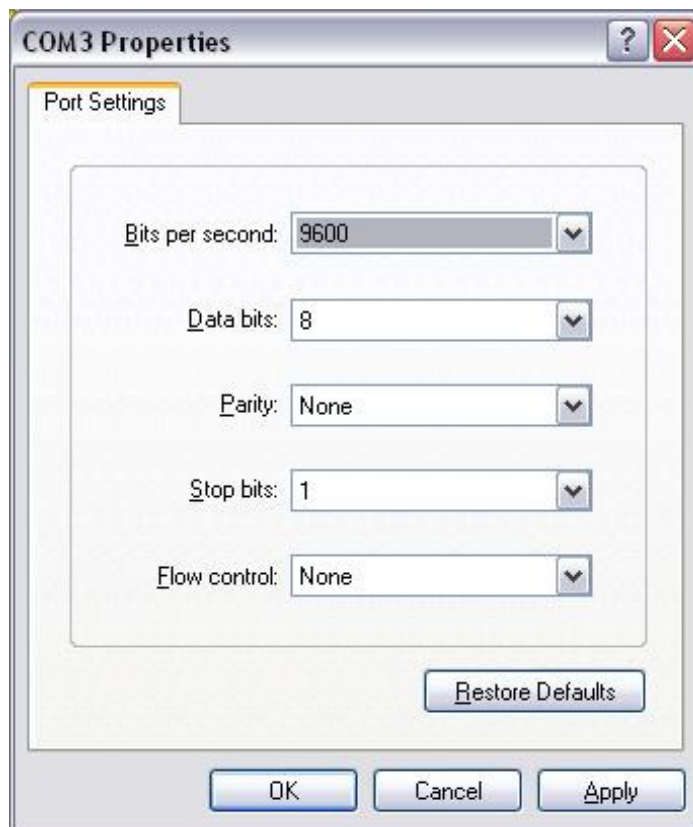

Figure 8: HyperTerminal COM Properties
6. The HyperTerminal will then prompt the user for properties of the selected COM port. Ensure the following port settings (as seen in Figure 8 below) are set then click *OK* when complete.